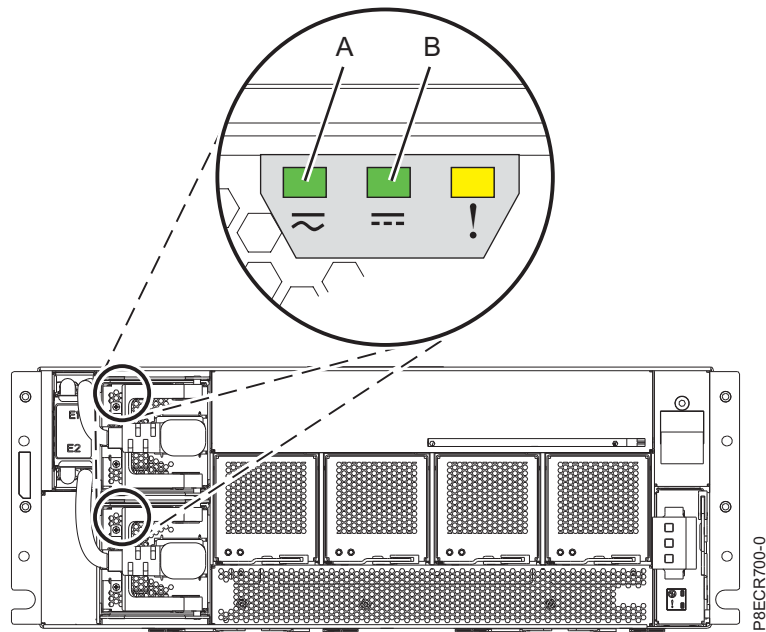

Figure 8. Power supply LEDs in the EMX0 PCIe3 expansion drawer
- c. Verify that the amber fault LED (right LED) on the replaced power supply is not lit, the green input LED (left LED) and output LED (center LED) are lit solid. Refer to (A) and (B) in Figure 8 on page 7.
- b. Verify that the amber fault LED (right LED) on the replaced power supply is not lit, the green input LED (left LED) and output LED (center LED) are lit solid. Refer to (A) and (B) in Figure 8 on page 7.